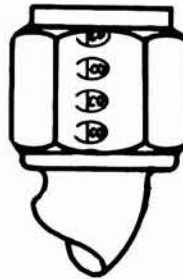

Figure 1.
The following installations may have hoses with hose fittings made by the Deutsch Company. Some of these fittings have been found to be unsatisfactory. Inspect the following hoses and if Deutsch Company 45 or 90 degree hose fittings are found (see Figure 1.) install new hoses.
2. Inspect the 90 degree fitting to determine if it was made by the Deutsch Company (see Figure 1.).
2. Inspect the 45 degree fitting to determine if it was made by the Deutsch Company (see Figure 1.).
2. Inspect the 45 degree fitting to determine if it was made by the Deutsch Company (see Figure 1.). If the fitting was not made by the Deutsch Company continue with step 6. If the fitting was made by the Deutsch Company continue with step 3.